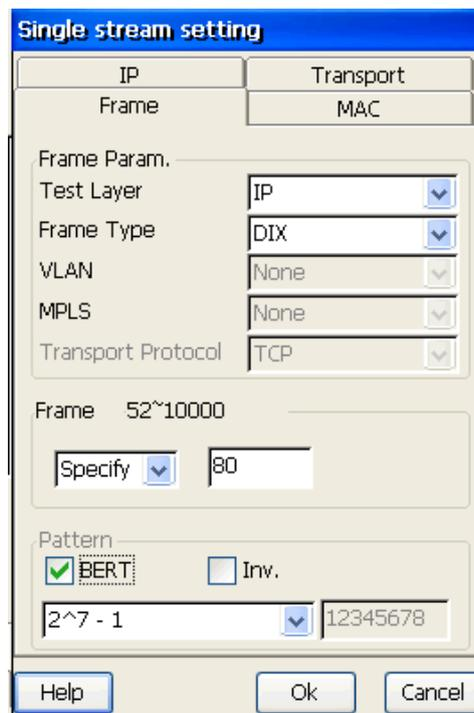

Figure 6.2.3 Test Layer Parameters Setting
**Step4:** Set Test Layer parameters, as is shown in figure 6.2.3.